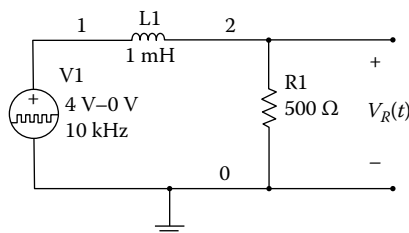

FIGURE 3.7
For the RL circuit shown in Figure 3.7, the input square wave has a frequency of 10 kHz, the peak-to-peak value of the square wave is 0 to 4 V with offset voltage of 2 V. Use the Analog Discovery board to obtain the output signal. (1) Measure the time constant of the circuit. (2) Compare the measured time constant with the theoretically calculated value. (3) If the frequency of square wave is increased to 100 kHz without changing the element values, what will be the output voltage?
Use a breadboard to build the circuit shown in Figure 3.7. Connect the AWG1 (yellow wire) to node 1 of the circuit. Also, connect the scope channel 1 positive (orange wire) to node 1. In addition, connect the scope channel 1 negative (orange-white wire) to node 0. Moreover, connect the ground (black wire) to node 0 of the circuit. Furthermore, connect scope channel 2 positive (blue wire) to node 2, and the scope channel 2 negative (blue-white wire) to node 0. Scope channel 1 will display the